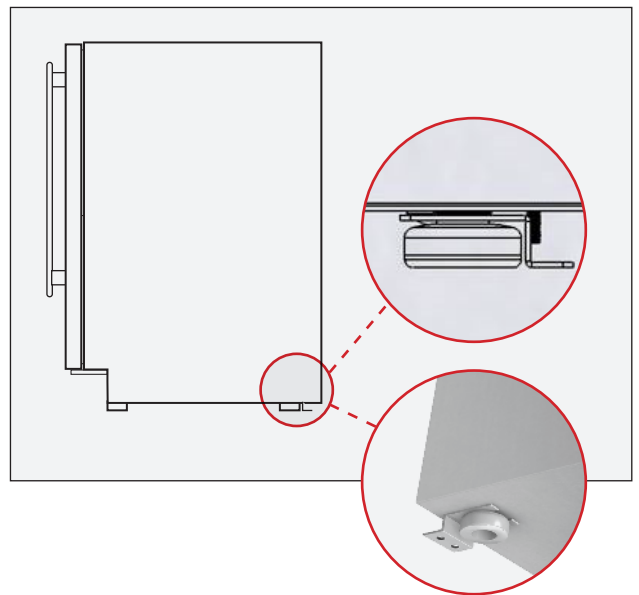

FIG. 3. Be sure the rear leveling legs slide into the brackets.
2. Carefully position the unit in its final installation location. Be sure the rear leveling legs slide into the anti-tip brackets. See fig. 3.